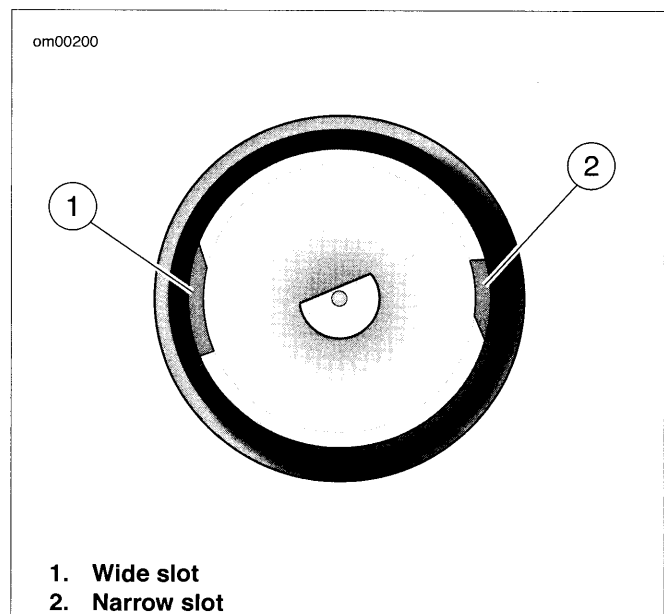

Figure 1-2. Filler Cap/Dipstick Slots
See Figure 1-2. Note that dipstick has a wide slot (1) and a narrow slot (2) and can only be inserted in oil tank one way.